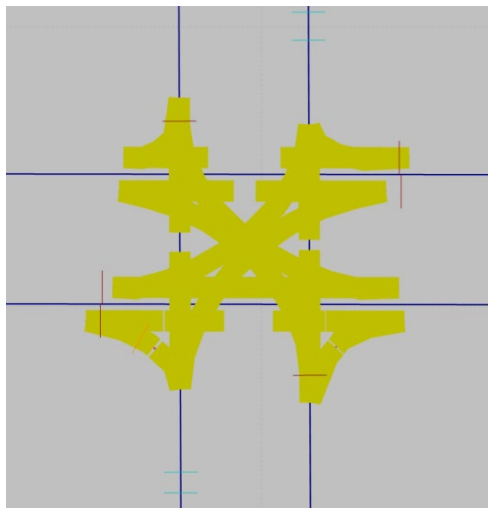

Figure 26: Conflict areas before defining right of way
- step i. Left-click the *Conflict Areas* icon  Conflict Areas . This will result in all possible conflict areas being highlighted. When a conflict area is undefined, both approaches will be highlighted yellow. Figure 26 shows the Buzz Blvd. and Burdell Dr. intersection.